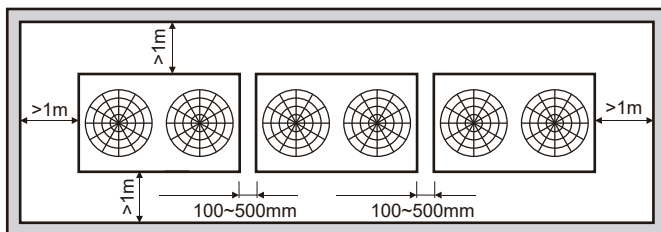

Fig. 3.11 Installation space of outdoor unit
- 1) When installation, a maintenance space as shown in Fig. 3.11 shall be left, the power supply device shall be installed at the side of the outdoor unit as per the method shown in the installation manual for the power supply unit.